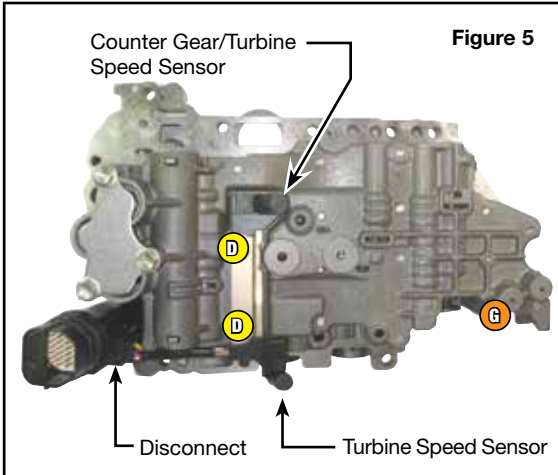

Figure 5
- Disconnect and remove counter gear/turbine speed sensor and valve body bolts (**Figure 5**).
- Connect and reinstall counter gear/turbine speed sensor and valve body bolts (**Figure 5**).